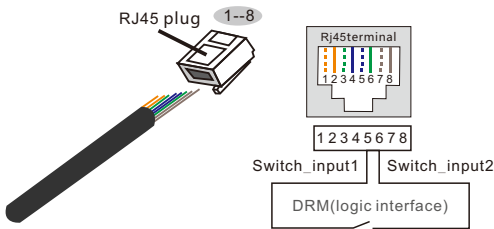

Figure 4.17 Strip the insulation layer and connect to RJ45 plug
Step 2: Use the network wire stripper to strip the insulation layer of the communication cable. According to the standard line sequence of figure 4.17 connect the wire to the plug of RJ45, and then use a network cable crimping tool to make it tight.